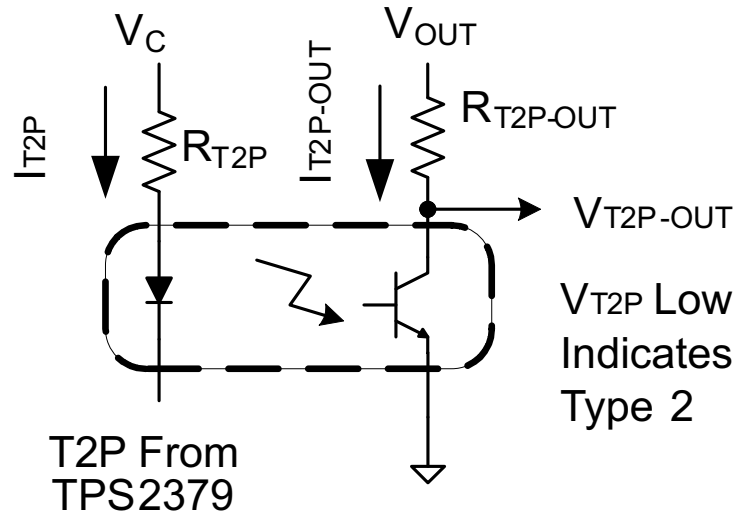

Figure 27. T2P Interface
The usage of T2P is demonstrated in Figure 27. When PSE applies and PD observes a type 2 hardware classification, T2P pin is pulled to RTN as a indication of the type of PSE.
- As shown in Figure 27, let  $V_C = 12\text{ V}$ ,  $V_{OUT} = 5\text{ V}$ ,  $R_{T2P-OUT} = 10\text{ k}\Omega$ ,  $V_{T2P} = 260\text{ mV}$ ,  $V_{T2P-OUT} = 400\text{ mV}$ .